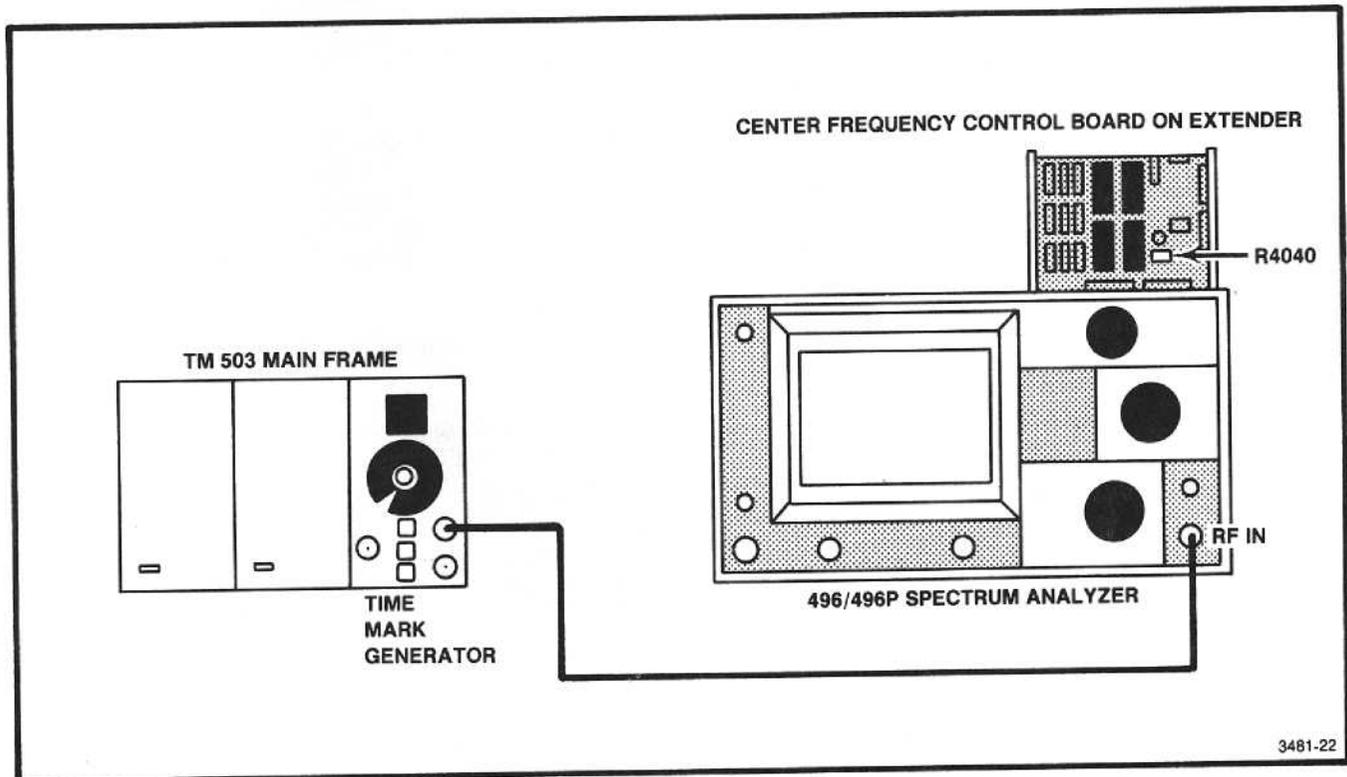

Fig. 3-32. Test equipment setup for check and adjustment of 2nd LO Tuning Range.
a. Test equipment setup is shown in Fig. 3-32. Switch POWER off, remove the Center Frequency Control board, and install the board on an extender; then switch POWER on. Set the FREQUENCY to 5 MHz, FREQ SPAN/DIV to 100 kHz, REF LEVEL to 0 dBm and MIN RF ATTEN to 30 dB.